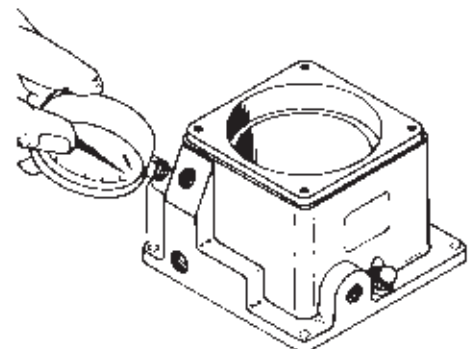

Figure 9
1. Remove the pipe plug from the gauge port located above the hydraulic outlet port(s). See Figure 9.